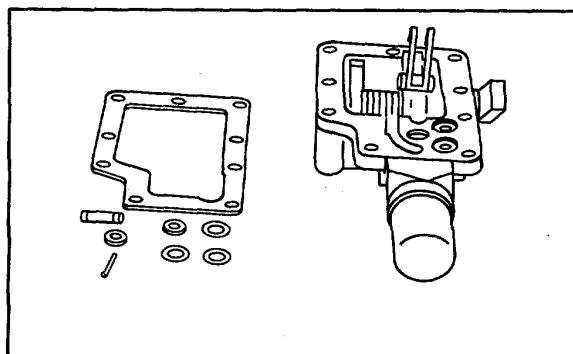

Figure 15.
4. Remove orifice and O-rings from control valve (refer to Fig. 15).